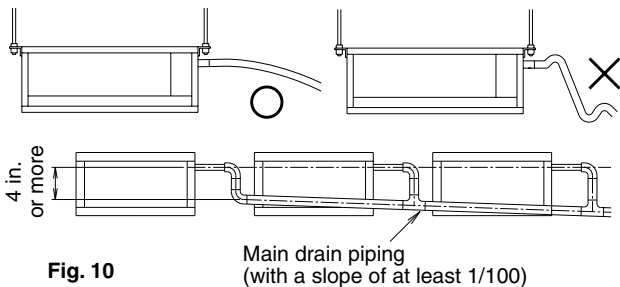

Fig. 10
(Refer to Fig. 10)
- Do not twist or bend the drain hose (2) as excessive force causes leakage.
- If you are using central drain piping, follow the procedure outlined in the figure 10.
(2) After piping work is finished, check drainage flows smoothly.